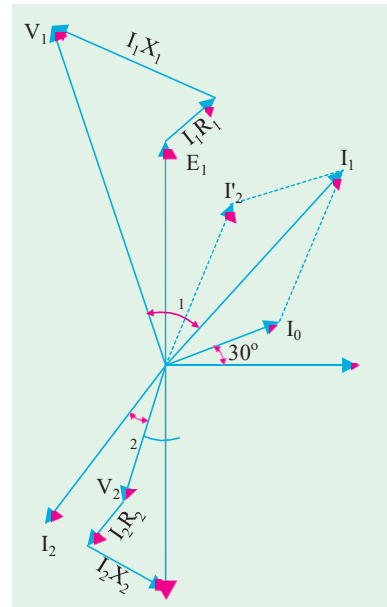

Fig. 32.31
**Solution.** The vector diagram is similar to Fig. 30.28 which has been redrawn as Fig. 32.31. Let us take  $V_2$  as the reference vector.
As seen from Fig. 32.31,  $I_0$  leads  $V_2$  by an angle  $= 3.5^\circ + 90^\circ + 30^\circ = 123.5^\circ$